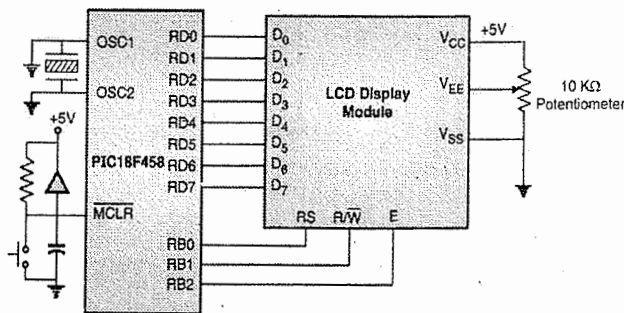

Fig. 10.6.3 : Interfacing LCD module with PIC18F458 (8 bit bus)
- Fig. 10.6.3 shows the interfacing of a LCD module with PIC18F458. As shown in Fig. 10.6.3 the data lines are connected to Port D of PIC18F458. The control lines RS,  $\overline{R/W}$  are driven by Port B pins RB0, RB1 and RB2. The